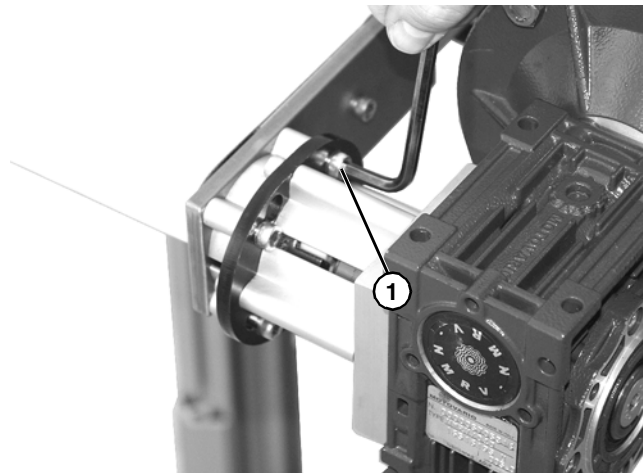

Figure 12
2. Loosen four M6x30 mounting screws (Figure 12, item 1).